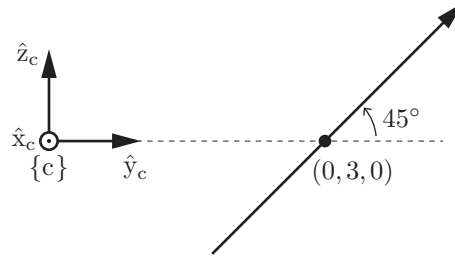

Figure 3.3: A screw axis in the (\hat{y}_c, \hat{z}_c) plane.
Practice exercise 3.4 Figure 3.3 shows a screw axis in the (\hat{y}_c, \hat{z}_c) plane, at a 45° angle with respect to the \hat{y}_c -axis. (The \hat{x}_c -axis points out of the page.) The screw axis passes through the point $(0, 3, 0)$.
- Now imagine that the axis in Figure 3.3 represents a wrench: a linear force along the axis and a moment about the axis (according to the right-hand rule). The linear force in the direction of the axis is 20 and the moment about the axis is 10. What is the wrench \mathcal{F}_c ?